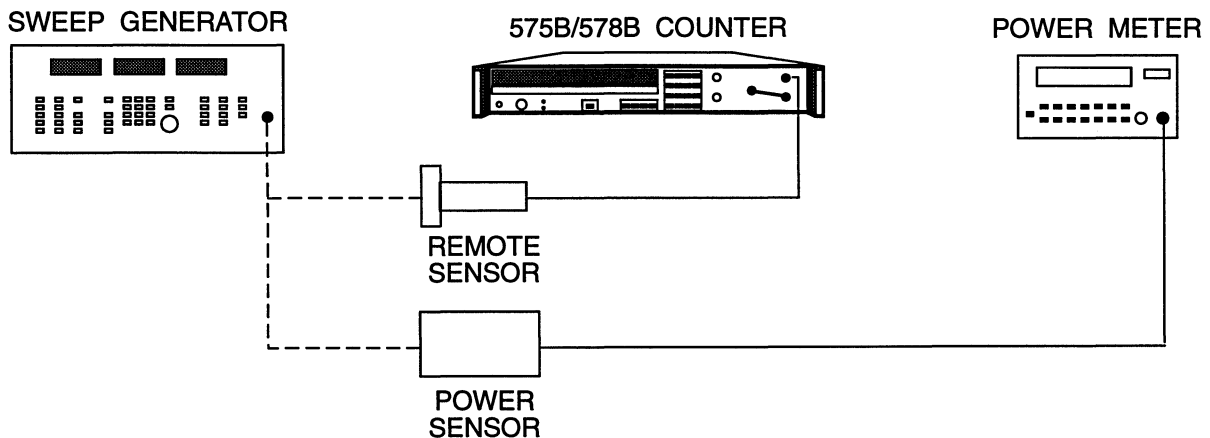

Figure 5-7. Band 4 Range and Sensitivity Test Setup (Model 578B, Option 06).
1. Connect equipment as shown in Figure 5-7.